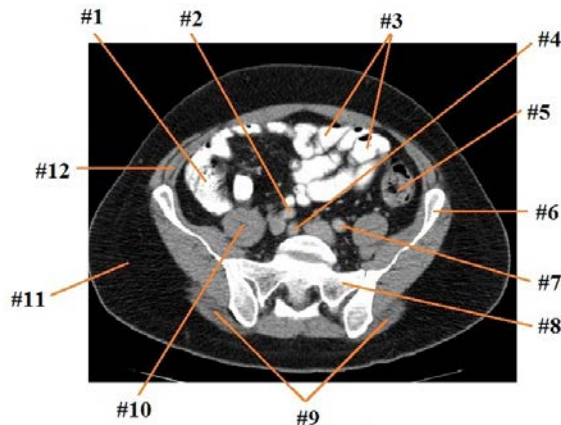

Figure 3–28. CT axial cross-sectional image of the pelvic region.
7. Identify the pelvic (lower abdominal) cross-sectional anatomy displayed in figure 3–28.